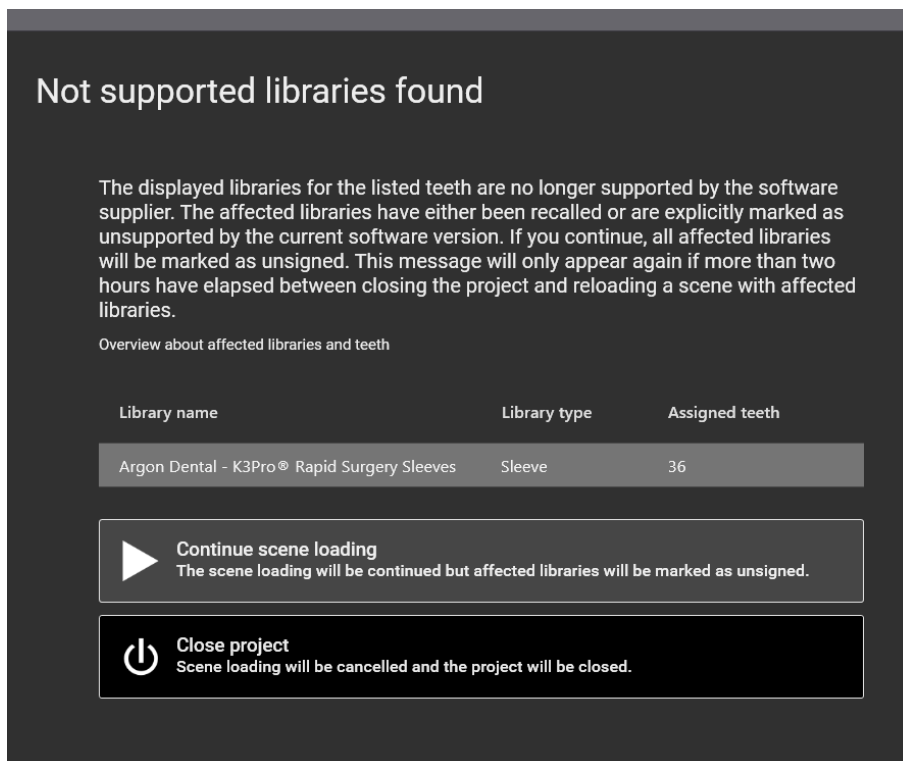

Figure 3: Unsigned library message of a blacklisted Argon® library to the user when loading a scene file that already contains the affected library.
- 3) If an implant planning “scene file” (file containing all the information about a planning or design scene, e.g., workflow state, scene objects) is loaded into *exoplan* that previously used the blacklisted sleeve library in the implant placement planning, a warning message appears to inform the user about the unsigned library (see figure 3).